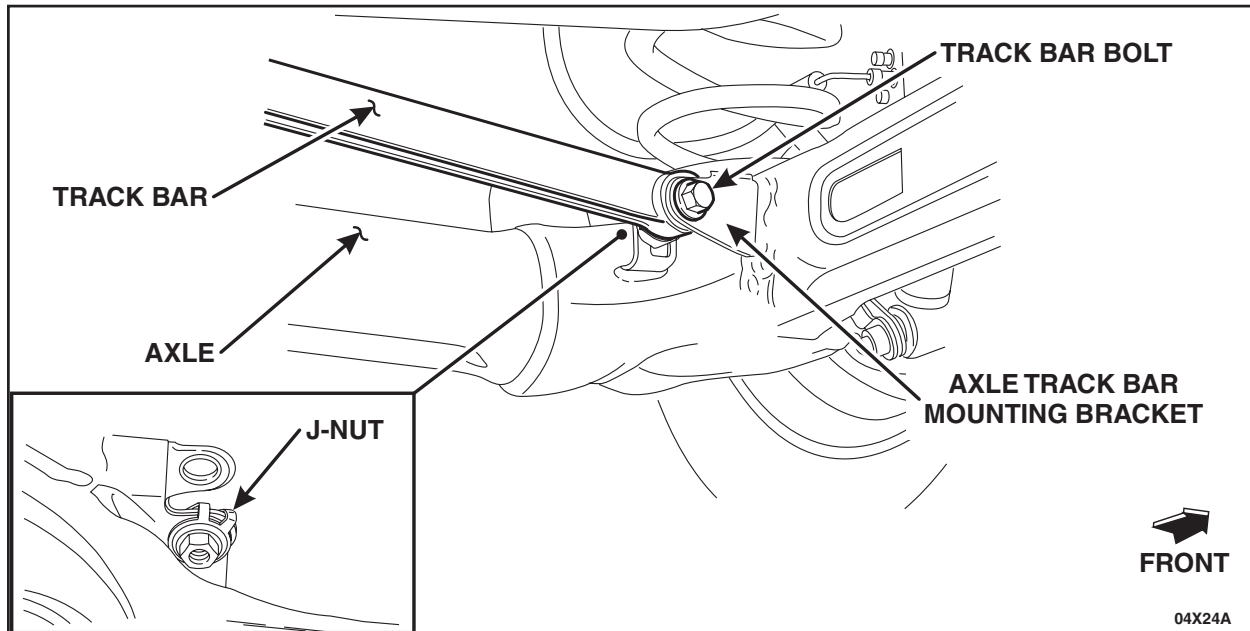

FIGURE 2
4. Disconnect the track bar from the rear axle. See Figure 2.
18. Install the J-nut on the rear axle track bar mounting bracket. Position the track bar on the rear axle track bar mounting bracket and install the track bar bolt. See Figure 2.